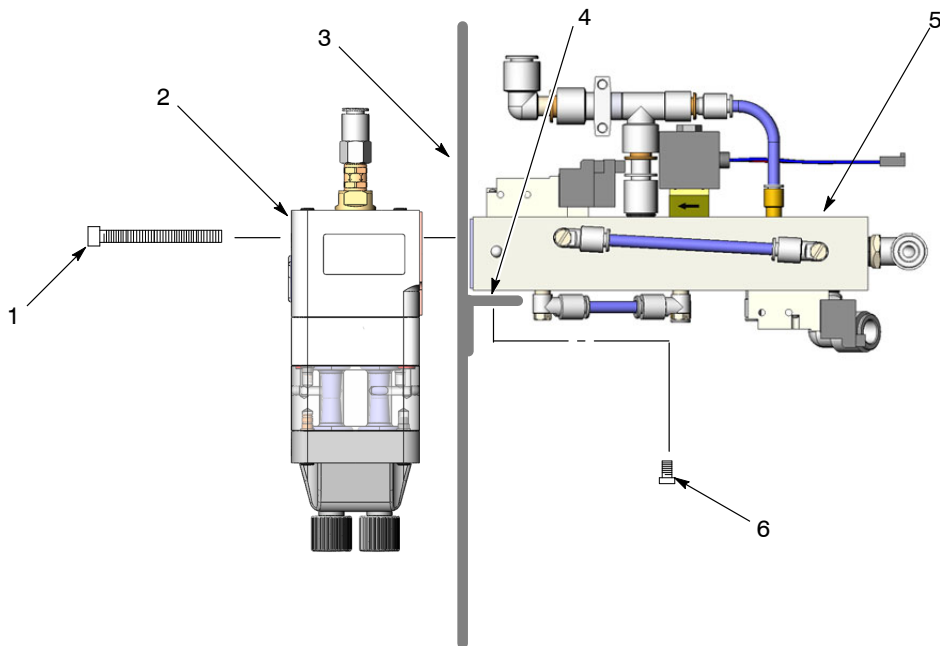

Figure 20 Pump and Manifold Installation
1. See Figure 20. Make sure that the gaskets on the pump (2) and manifold (5) are not damaged. If the gaskets are damaged, replace them.
2. Set the manifold onto the appropriate mounting bracket (4) against the pump panel wall (3). Secure the manifold with the mounting screws (6), but do not tighten the screws.
3. Secure the pump to the pump panel and manifold using the pump mounting screws (1). Tighten the pump mounting screws securely.